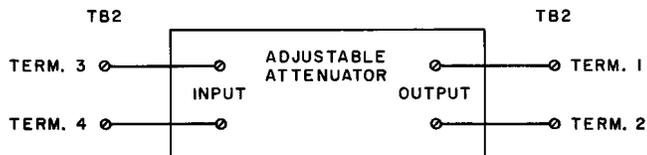

Fig. 2 — Attenuator Connection, No Relay Operation
- (1) Arrange the data set for 4-wire operation (*U* option).
- (2) Connect an adjustable attenuator as shown in Fig. 2 if no telephone set or remote control of data and talk modes is used in the
(1) Make sure the data set is trapped for 4-wire operation (U option).
(2) Make sure the adjustable attenuator is connected as shown in Fig. 2.
(3) Insert sufficient attenuation to reduce the modulator signal to the lowest signal level to be received, including normal circuit variations. For example, if the modulator is set at -6, and -30 dbm is the specified level, then 24 db of attenuation is necessary.
(4) Operate switch S1 to TEST.
(5) Operate switch S2 to SPACE.
(6) Observe the output of demodulator board B between OUT and GRD using an oscilloscope set for dc input or a zero centered voltmeter. Adjust the C/D potentiometer to the point where the output just swings from -8 volts to +8 volts. Check this adjustment by inserting 1-db additional loss, which should cause the observed signal to swing from +8 volts back to -8 volts. Lock the C/D potentiometer and recheck the reading to make sure adjustment was not changed by the locking procedure.
- (7) Return switch S1 to TRANS and switch S2 to MARK.
- (1) Make sure the adjustable attenuator is connected as shown in Fig. 2.
- (2) Make sure the data set is strapped for 4-wire operation (*U* option).
- (3) Insert sufficient attenuation to reduce the signal to about 5 db below the minimum signal level that will be received, ie, if -25 is the minimum signal level to be received and the modulator output is at -6 dbm, the DEM SENS potentiometer should be set for -30 DBM, and 24 db of attenuation is necessary.
- (4) Operate switch S1 to TEST.
- (5) Operate switch S2 to SPACE.
- (6) Observe the output of demodulator board B between OUT and GRD using an oscilloscope set for dc input or a zero centered voltmeter. Adjust the DEM SENS potentiometer until the demodulator just swings from a nominal -8 volts to a nominal $+8$ volts.
- (7) Lock the potentiometer and recheck the measurement to be certain the setting was not changed by the locking procedure.
- (8) Return switch S1 to TRANS.